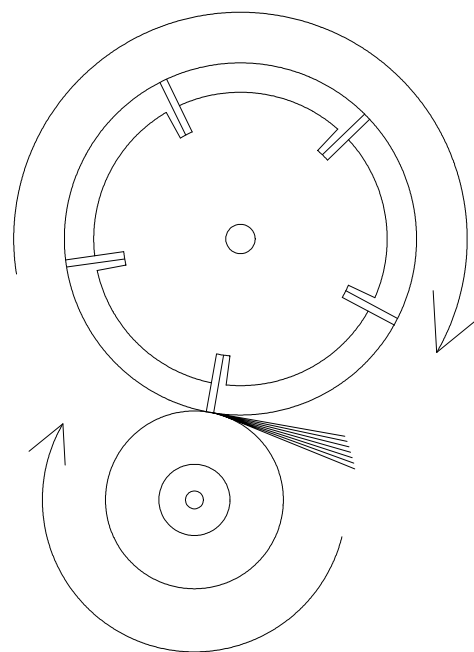
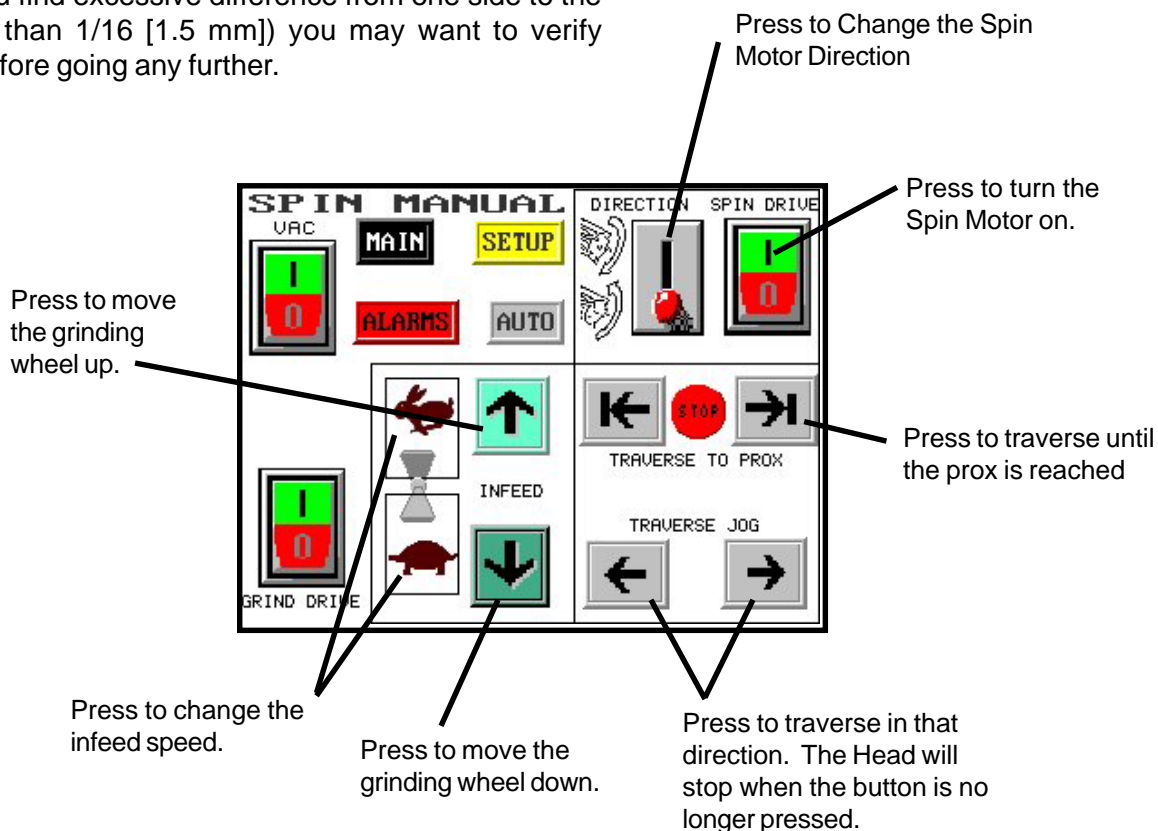

FIG. 30
FIG. 31
Move the Traverse Travel Limit switches out to allow the grinding wheel to reach the end of the reel. See FIG. 29. Depress the Traverse Jog button on the Spin Manual Touch Screen, to move the grinding wheel until it has cleared the end of the reel (if clearance to the frame allows) See FIG 31. When the grinding wheel is in position, move the Traverse Travel Limit switches in until the light on the proximity switch lights. Move the grinding wheel in a couple of inches and then back out to verify the switch properly stops grinding wheel. Repeat the process on the opposite prox switch.
Turn on the Grinding Wheel Motor and the Spin Drive Motor on the Spin Manual Touch Screen. Set the Spin Speed per the instructions on Page 37. Make sure spin rotation is the same as the grinding wheel - clockwise (CW) looking from right end. See FIG. 30. Go to the Spin Manual Touch Screen to change the spin motor direction. See FIG 31.
Manually traverse to **HOME POSITION** (all the way to the right side until the right side proximity switch is lit) using the Spin Manual Touch Screen. See FIG. 31.